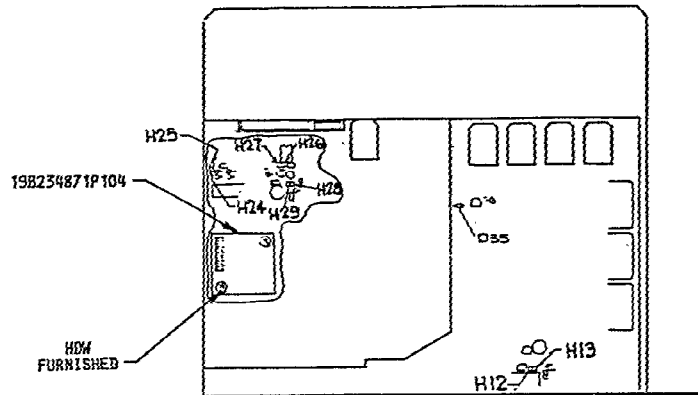

FIG. 2
6. MOUNT 19B234871P104 PER FIG. 2.